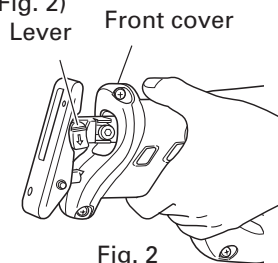
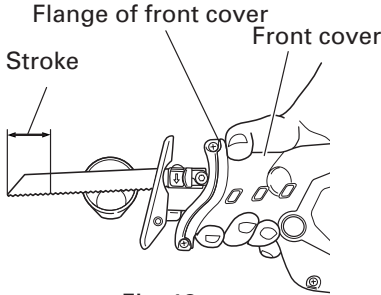
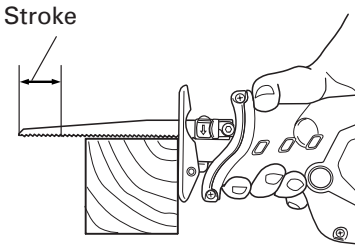

Fig. 2
Fig. 18
Fig. 19
(Fig. 2)
- (1) Turn on and off the switching trigger several times so that the lever can jump out of the front cover completely. Thereafter, turn off the switch and unplug the power cord. (Fig. 2)
- Do not remove the front cover (refer to Fig. 2). Hold firmly the front cover by hand to operate. But, do not extend your hand or finger beyond the flange (see Fig.18) of front cover to avoid an injury.
- Select a saw blade of the most appropriate length. Ideally, the length protruding from the base of the saw blade after subtracting the stroke should be larger than the material (see Fig. 18 and Fig. 19).